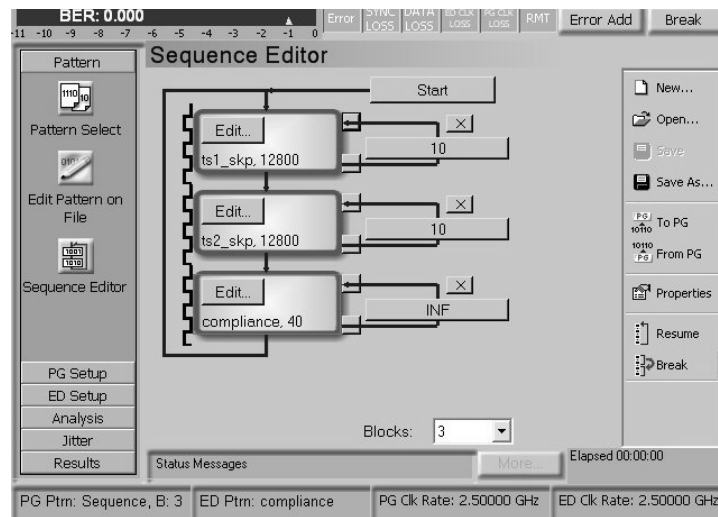

Figure 9: Sequence editor for training and BER test
5. Figure 9 shows the Sequence Editor with the pattern setup for loop-back mode. This combines loops and customized user patterns. It shows the setup of the necessary TS1 and TS2 flow with embedded SKIP symbol generation. SKIP symbols are required regularly. Here they are provided by the TS1SKP and TS2SKP segments. This forces the PCIe device into loop-back mode. Once in loop-back mode, the COMPLIANCE pattern, with length of 40 bits, is looped infinitely for BER testing.